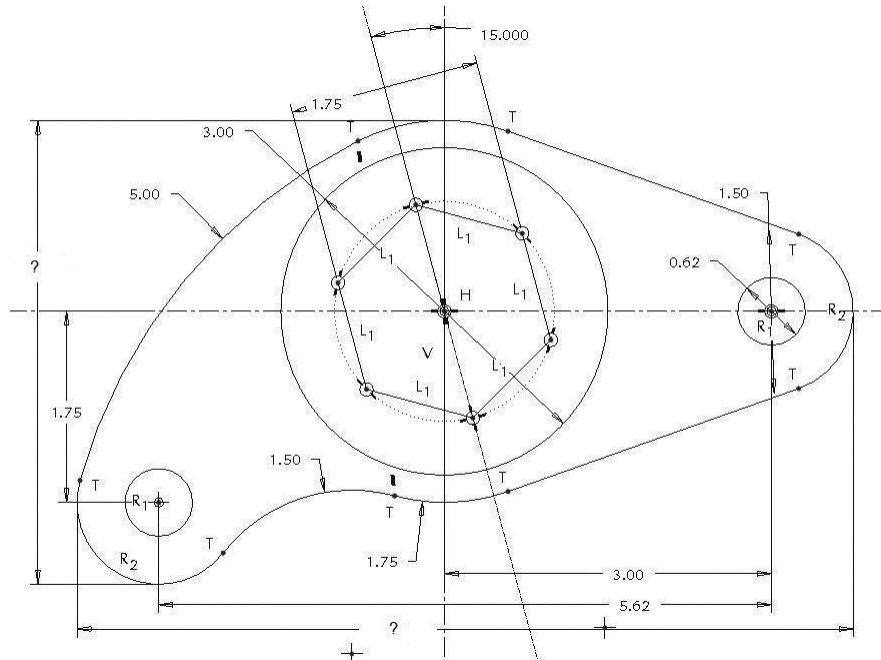

Figure 3-73 Problem 4
3.4 Draw the front view of rocker arm127 (Figure 3-73). **Design Intent**—The hexagonal shaped hole of the rocker must be offset by 15 degrees. The right 0.62-inch diameter hole must be 3.00 inches from the center hex hole. The left 0.62-inch diameter hole must be 5.62 inches from the right hole. What is the overall size of rocker arm127?